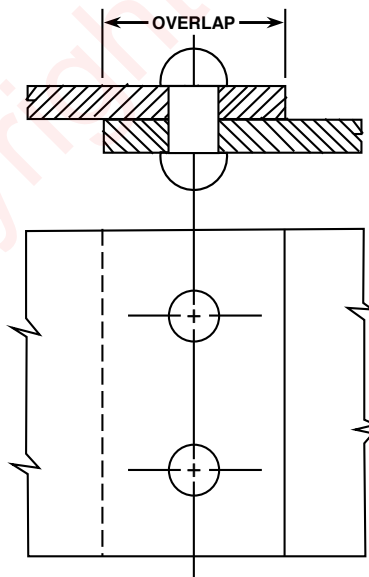

Fig.14.5: Single Riveted Lap Joint
1. Interpret the sketch given in Fig.14.5 and as per instructions of the teacher decide the dimensions for marking.
2. Collect tools and required materials as per job shown in Fig.14.5.